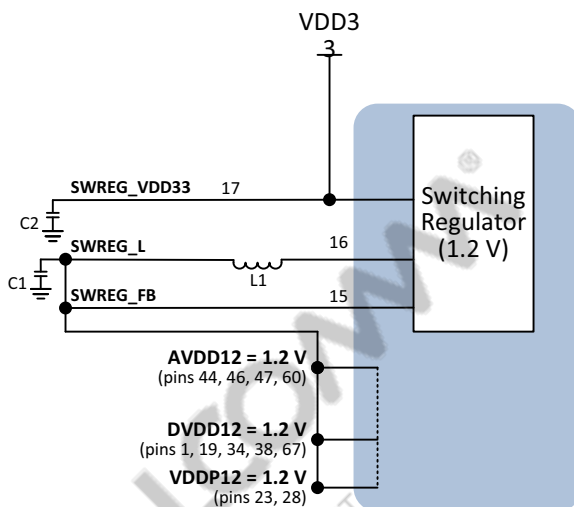

Figure 3-2 Output voltages regulated by the QCA9887
1. An LC circuit is required off-chip between the SWREG\_OUT and SWREG\_FB. See Figure 3-2.
1. All 1.2 V supplies need to be connected to the SWREG\_FB pin. See Figure 3-2.
Figure 3-2 depicts the voltages regulated by the QCA9887. Refer to the reference design schematics for details.